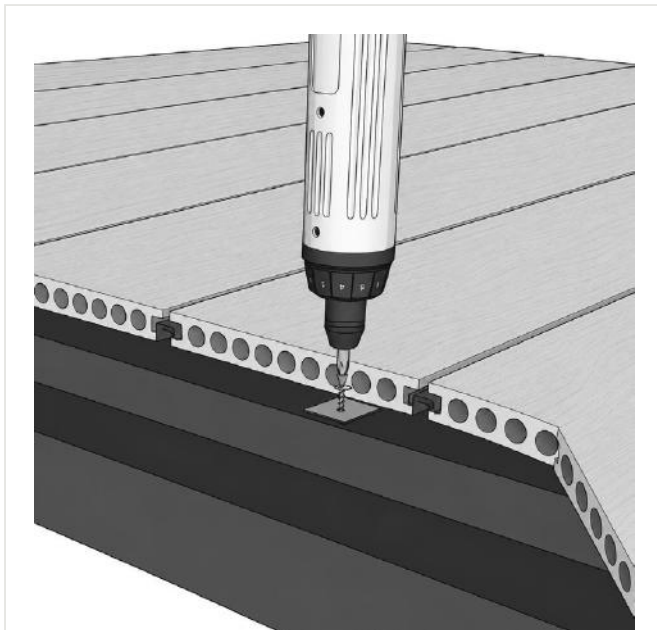

FIG. 14 – PERPENDICULAR PICTURE-FRAME BOARD OVER A DOUBLE JOIST
- 01 A full joist width must be used under each deck-board end, so where the picture-frame board runs perpendicular to the main deck, you must have a double joist structure (fig. 14).
- 03 For the boards that run perpendicular to the main deck, place starter clips on the inner joist to hold the inner board edge in place (fig. 14). A clip should be installed every 300 mm along the length of the joist.